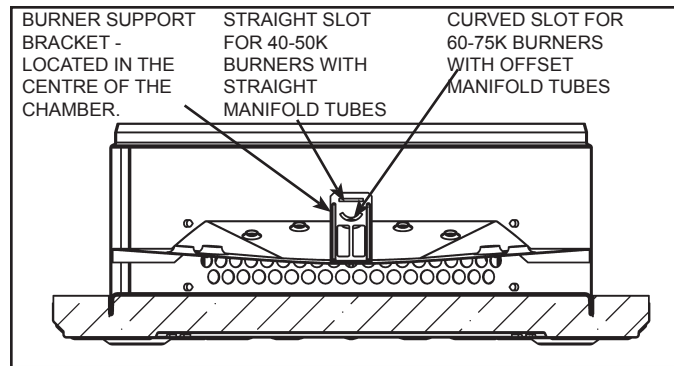

Figure 16. Manifold/Burner Assembly
1. Insert the manifold/burner assembly in the burner chamber compartment, making sure that the tip of burner manifold tab engages in the proper slot of the bracket. The tip end of the burner manifold MUST be placed in the slotted portion under the condensation pan to obtain proper installation. See **Figure 16** (page 14).
1. Insert the manifold/burner assembly in the burner chamber compartment, making sure that the tip of burner manifold tab engages in the proper slot of the bracket. See **Figure 16** (page 14).